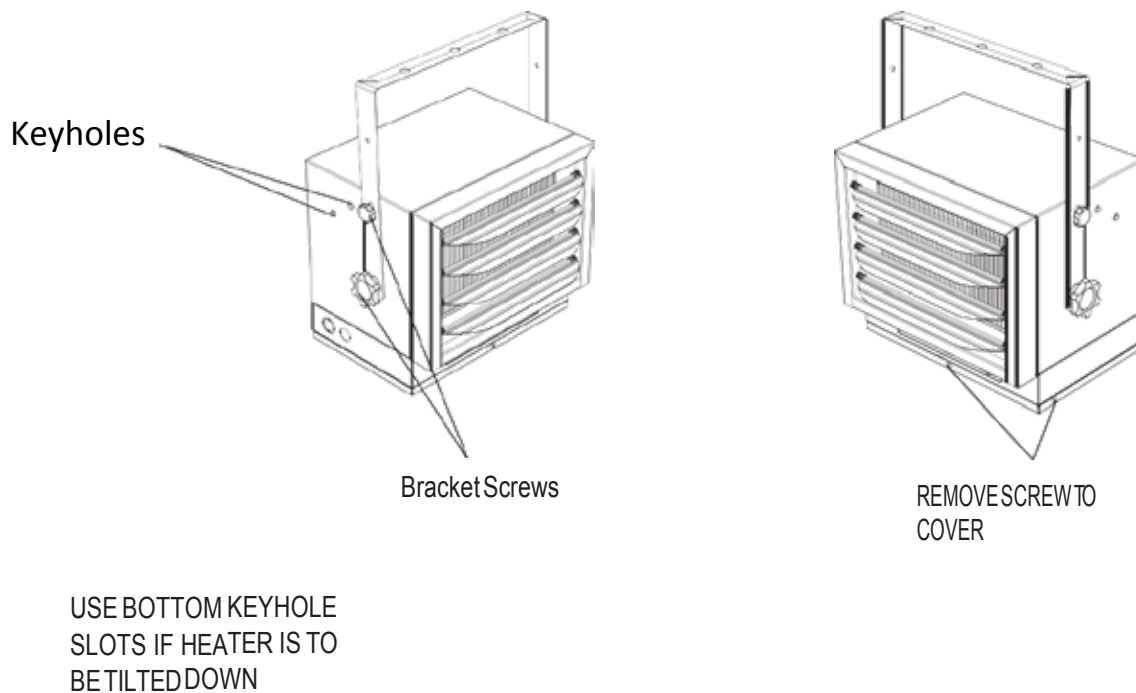

Figure 6
- 3) If the heater is to be tilted it must be positioned in the keyhole slots - see figure 6.
2. To tilt the unit vertically, loosen the bracket screws (see figure 6).